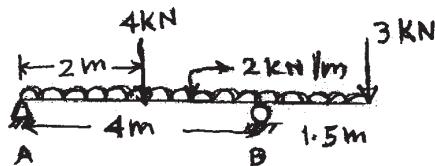

Fig.1.
**Q1)** A beam as shown in fig.1. Calculate a) support reaction b) shear force dia. With position of zero shear c) bending moment dia. With point of contraflexure. [15]